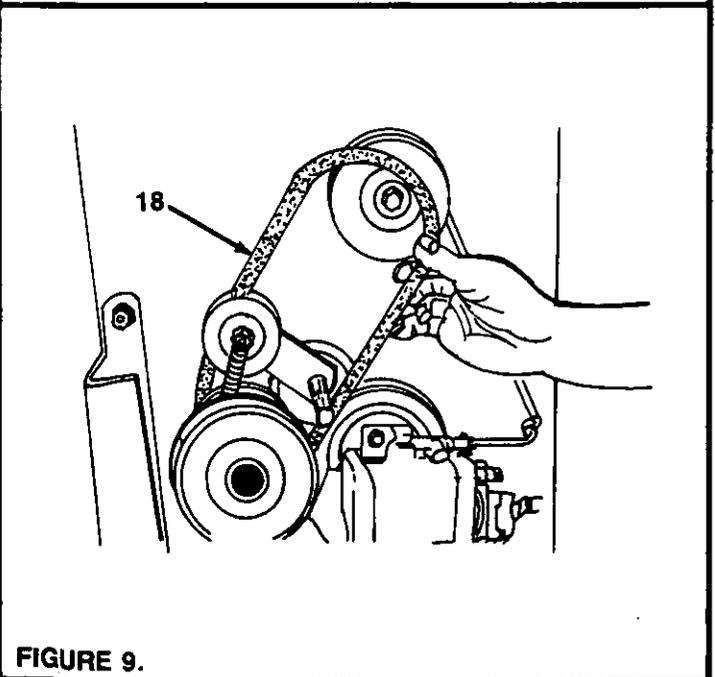

FIGURE 9.
11. Remove and replace the "V"-belt. See figure 9.